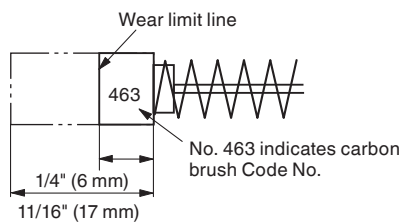
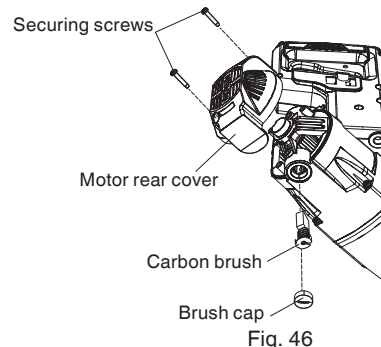

Fig. 45
Fig. 46
2. Inspecting the carbon brushes (Fig. 45 and Fig. 46)
The carbon brushes in the motor are expendable parts. If the carbon brushes become excessively worn, motor trouble might occur. Therefore, inspect the carbon brushes periodically and replace them when they have become worn to the wear limit line as shown in Fig. 45. Also, keep the carbon brushes clean so that they will slide smoothly within the brush holders.
NOTE: When replacing the carbon brushes, use only Hitachi carbon brushes having "463" of Code No. (see Fig. 45). If you use other carbon brushes, the electric brake will not operate.